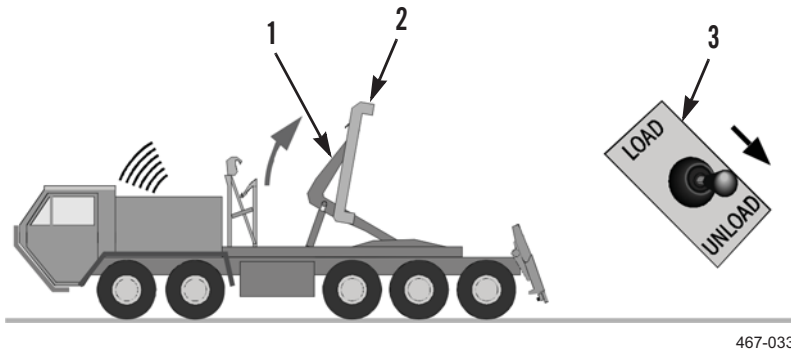

Figure 10. Lift Frame Pivots Rearward.
3. With engine at idle speed, set joystick (Figure 10, Item 3) to UNLOAD position (PLS: TM 9-2320-364-14&P, HEMTT: TM 9-2320-326-14&P).
5. Hook arm (Figure 10, Item 1) rises and pivots rearward carrying lift frame (Figure 10, Item 2) with it. NO TRANS light goes on.